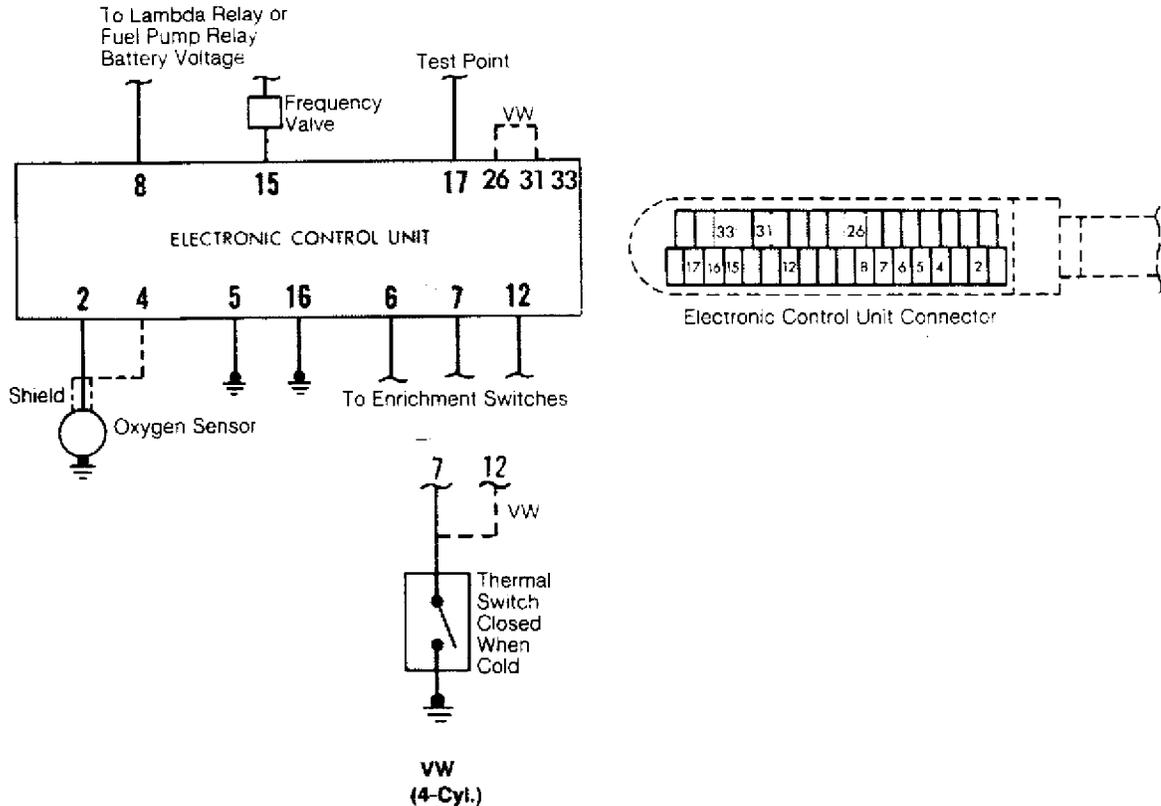

Fig. 13: Bosch CIS Lambda Electronic Control Unit Wiring Diagram
1) Disconnect hoses from auxiliary air valve. Use a mirror and small flashlight to inspect valve. See Fig. 13. At room temperature, valve should be slightly open. If equipped, disconnect wires from air flow sensor. With ignition switch "ON" valve should cover opening within 5 minutes.
3) On models with throttle enrichment switch, operate throttle. Readings should be higher at idle or wide open throttle. See Fig. 13.